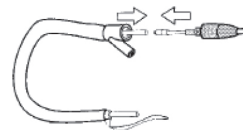

Fig. 4-6A
1. Insert the brass barb of the Tension Guide cable securely into the feeder tube at the “Y” connect end of the loop cover. (See Figure 4-6A)